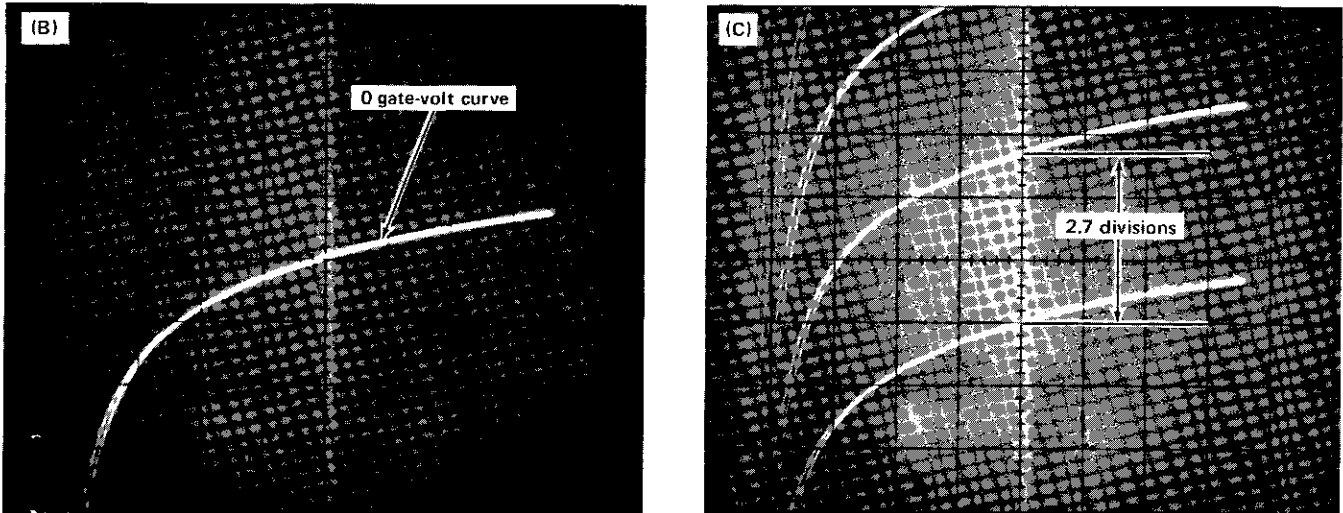

Fig. 14B, C. Illustration of step 19, g_m calculation (cont).
19. Position the zero gate volts curve to graticule center as shown in Fig. 14B. Pull the VERT 10X MAG (POSITION) knob and position the display to a convenient area of the graticule as shown in Fig. 14C. Press the STEP FAMILY REP button and reposition the display as necessary.